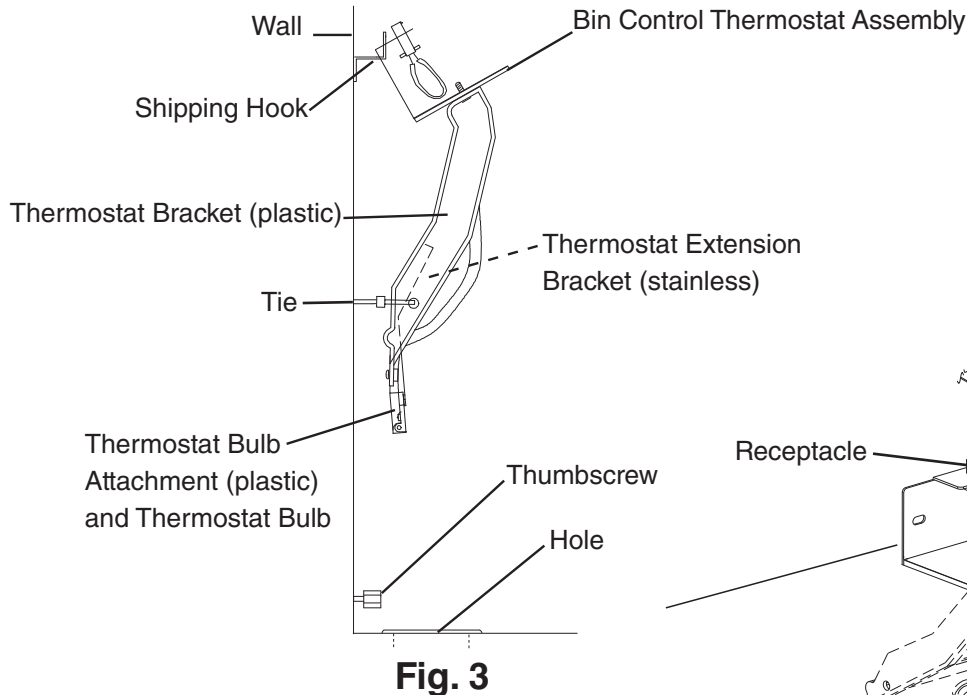

Fig. 3
- c. Remove the bin control thermostat assembly from the shipping hook by lifting it up and shifting it to the right. Lower the thermostat extension bracket (stainless) with the thermostat bulb attachment and thermostat bulb through the hole located at the bottom of the icemaker. Next, lower the thermostat bracket (plastic) through the hole. See Fig. 3.